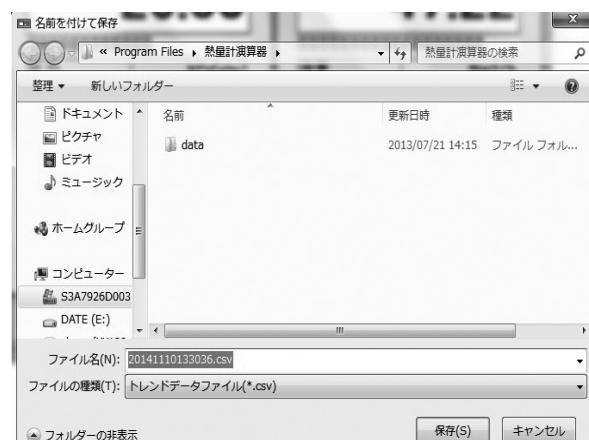

Fig. 9.5.2 Saving by Entering a File Name
4. Once the window (Fig. 9.5.2) opens, specify the location to save the data. While collecting data, [トレンド] [Trend] in [メニュー] [Menu] is being checked, and [Trend] in the lower right corner of the screen flashes (Fig. 9.5.3).